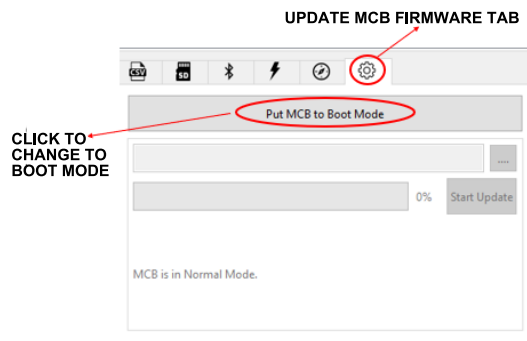

Figure 33. Change to Boot Mode
1. On the update MCB firmware tab, click the **Put MCB to Boot Mode** button to transition the MCB from normal mode to boot mode (see Figure 33).